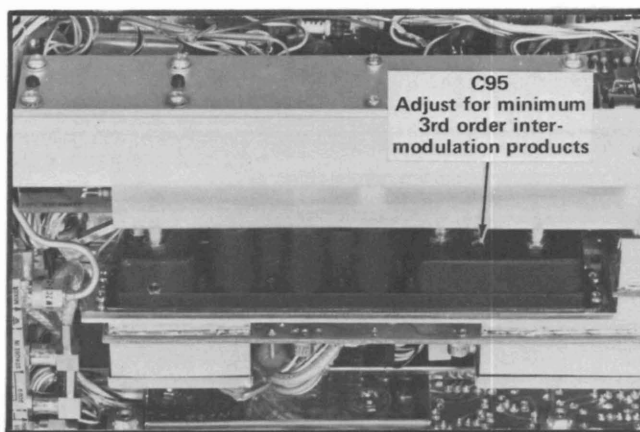

Fig. 4-22. Location of C95 (I.M. Adj) in 3rd mixer assembly.
d. Adjust IM Adj C95 (Fig. 4-22) to minimize the amplitude of the sidebands.